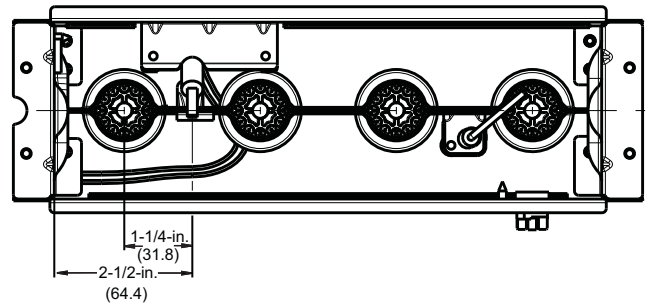

Fig. 5 - Igniter Position (Back View)
10. Check the igniter alignment. See Fig. 5 and 6.